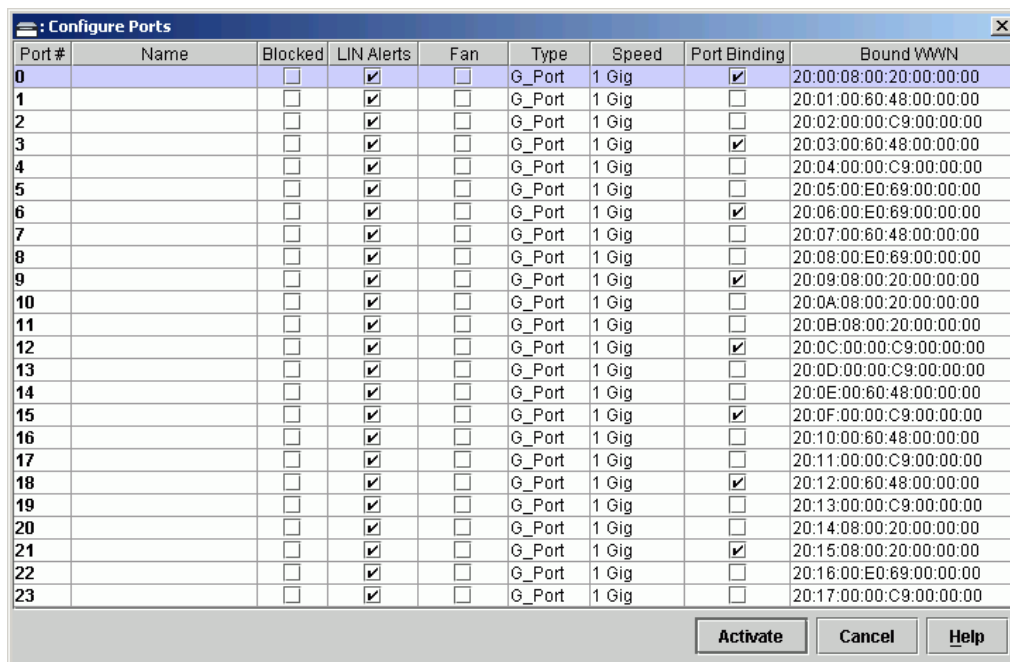

Figure 2-93 Configure Ports Dialog Box
1. At the *Hardware View*, select *Ports* from the *Configure* menu. The *Configure Ports* dialog box displays (Figure 2-93).